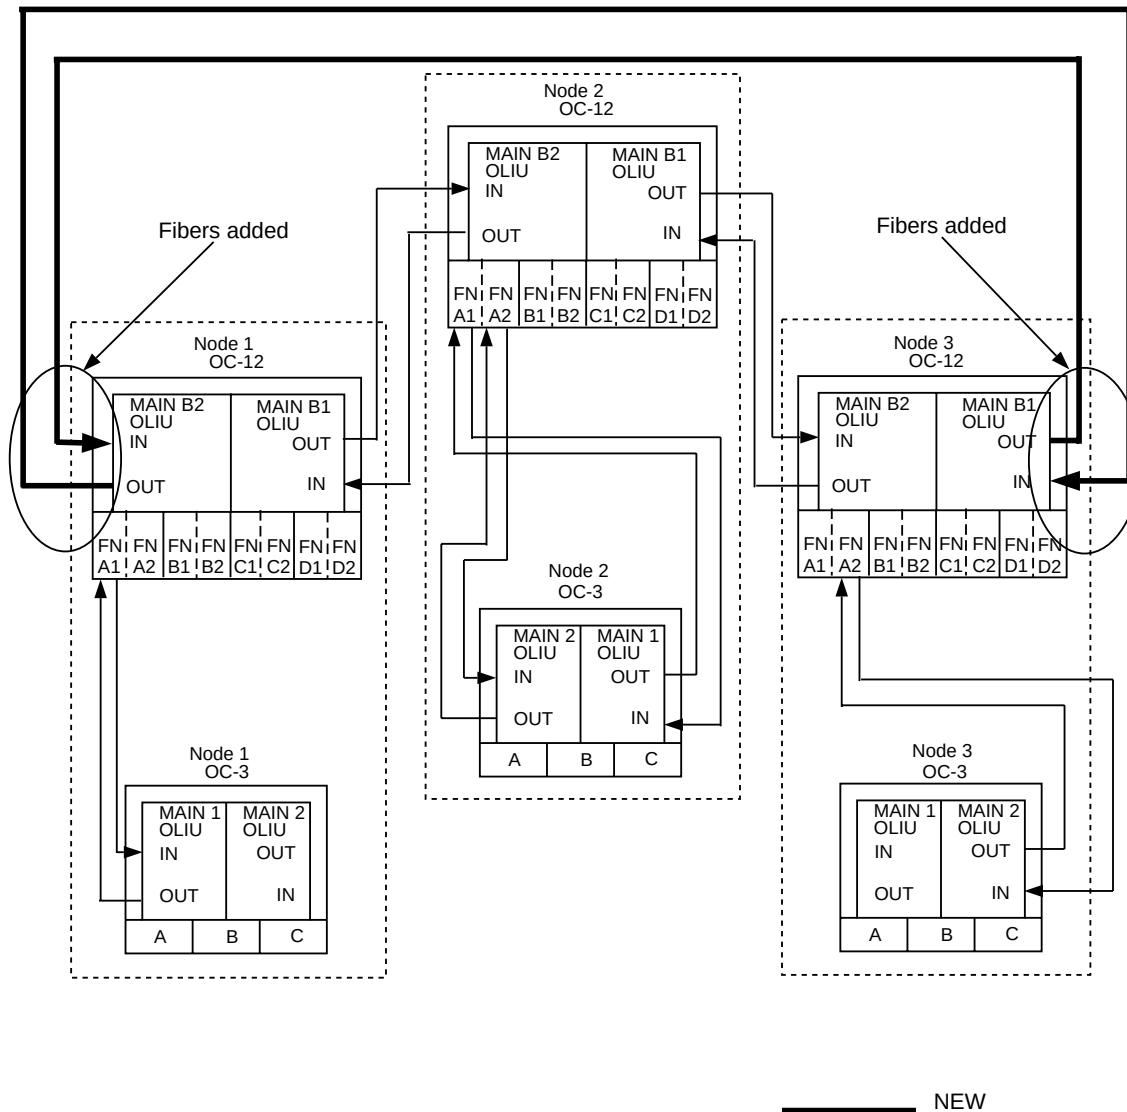

Figure 6. Example of OC-3 to OC-12 Ring Upgrade (6 of 7)
21. See Figure 6. Disconnect the fiber pair between OC-3 Node 3 and Node 1. If required, use these fibers to connect OC-12 Node 3 and Node 1. **DLP-511**